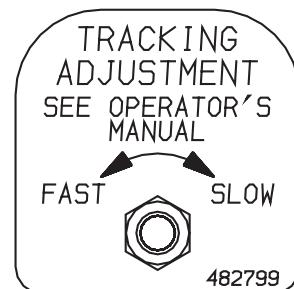

Figure 14. Tracking Adjustment
3. If the machine pulls to one side. Stop the mower by placing the steering control levers in the neutral position. Using the adjustment wrench located on the left side of the machine, turn the tracking adjustment nut on the slower side counter clockwise until the machine tracks straight. (See Figure 14)
2. Place a suitable container under the hydraulic oil drain. Remove the fill cap from the reservoir. Remove the drain cap from the T-Fitting located on the hydraulic system filter head. (See Figure 14). Allow the fluid to drain into the container and properly discard it.